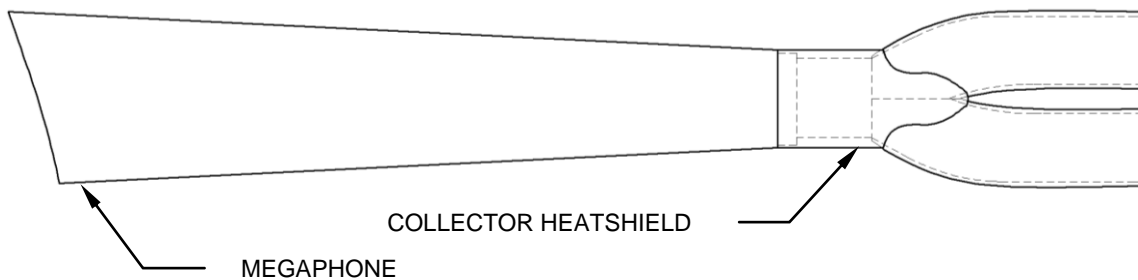

FIGURE 3
8. Place the heatshields on the headpipes and align at collector. **DO NOT TIGHTEN** at this time. Feed the tail end of the #28 hose clamp thru the collector heat shield and snap into place over the megaphone and heat shields (See figure 3). Tighten all clamps.